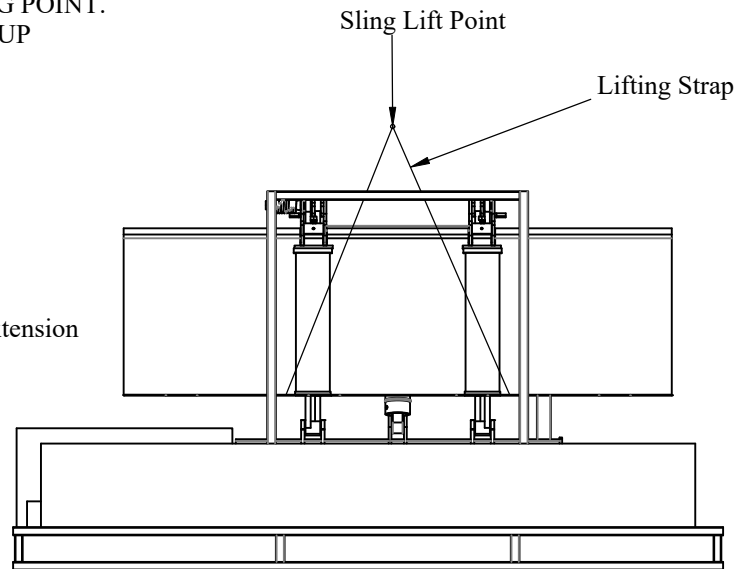
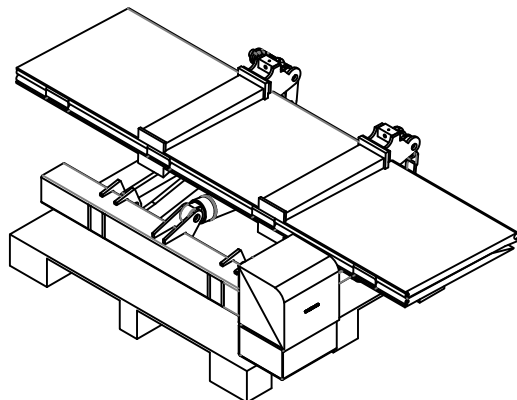

Figure 5: Sling Lift Point.
Figure 6: Position For Mounting.
3. Use a lifting strap to raise liftgate from pallet. Carefully lift the platform using two lifting straps (Figure 5) and position horizontally with the platform on the top side (Figure 6).